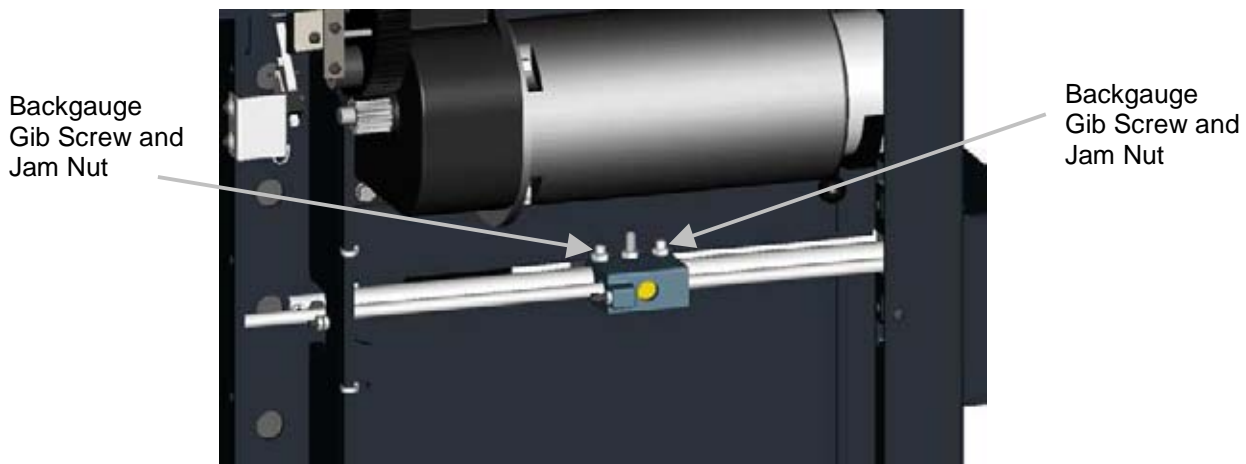

Figure 12
3. Loosen the two outside gib screw jam nuts (Figure 12).